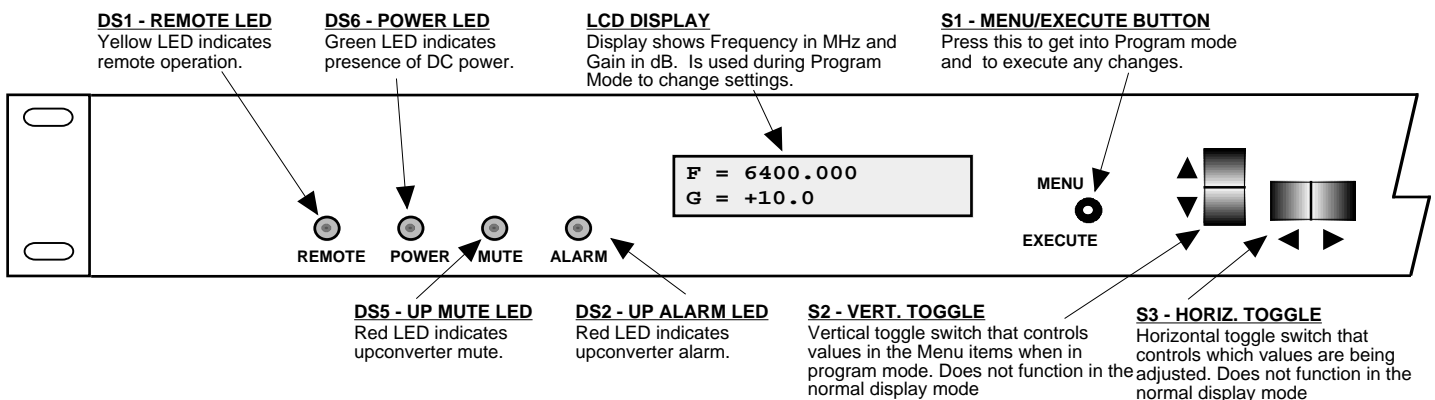

FIGURE 2.3 2015-60 Front Panel Controls and Indicators
7. Be sure DS6 (green, DC Power) is on and DS2 (red, Alarm) is off (Figure 2.3).